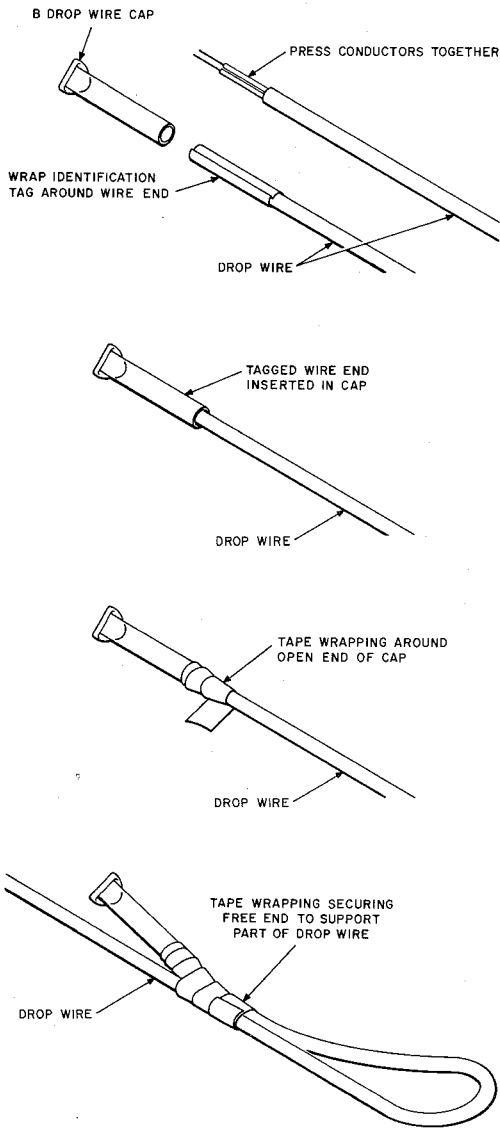

Fig. 3—Disposition of Disconnected Drop Wire
**6.01** Fig. 3 shows the procedure for placing the B Drop Wire Cap.